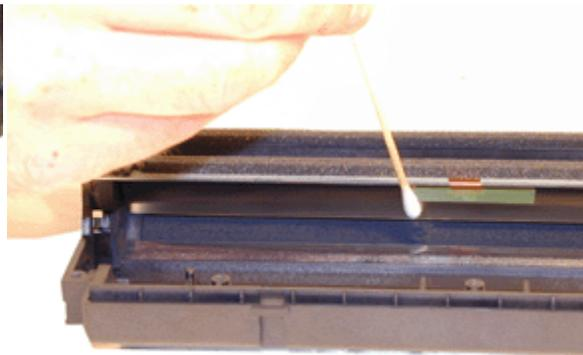

FIGURE 19
17. It is highly recommended that the Doctor Blade be cleaned. Failure to do so will cause streaking. The Doctor Blade can be cleaned with out removing it. Dampen a cotton swab with alcohol, and clean the blade. Be careful not to press too hard and damage the blade. If the blade has a heavy buildup of toner on it, clean it with Acetone, and then alcohol. Removing the blade is difficult because of the foam seals attached. If the seals are torn, the cartridge will leak. That is why we do not recommend it. Once replacement Dr. Blades are available, they will have to come with replacement foam. See Figure 19